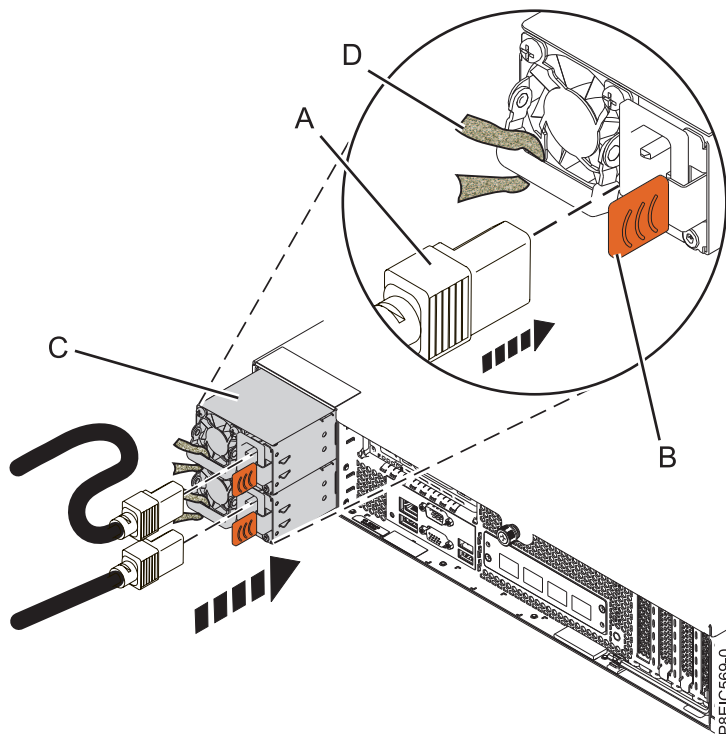

Figure 59. Replacing a power supply in the system
1. Align the power supply (C) with the bay and slide the power supply into the system until the latch (B) locks in place. See Figure 59.
- a. Connect the power cord to the power supply, as shown in Figure 59.